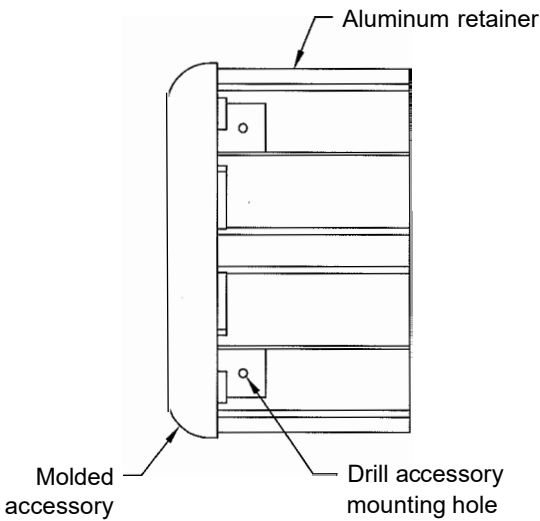

fig 3
- Drywall Installation:** Using the accessory as a template pre-drill clearance holes for mounting through to metal backer or stud or pre-drill pilot holes using #29 (.136") bit for #8 fastener or a #21 bit (.159") for #10 fastener for attaching accessories directly to aluminum, see **fig 3**.
- Masonry Installation:** Using the accessory as a template pre-drill clearance holes at mounting locations, see **fig 3**.